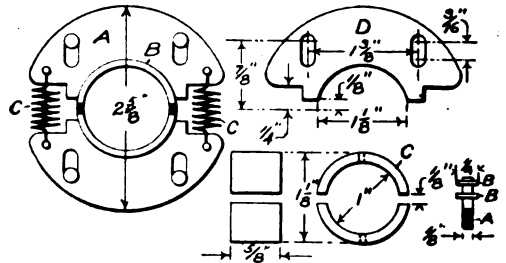

Fig. 8. Brass Contactors. Fig. 9. Contact Segments
The device which automatically cuts out the phase or starting coils when the rotor has attained speed is illustrated in Fig. 8. This consists of two brass contactors (A), which revolve with the rotor about two contact segments (B). The contactors are held in contact with the segments by means of the springs (C). The two contact segments (B) are connected in series with the phase winding. When the rotor has attained a certain speed, the centrifugal force of the contactors pulls them away from the segments, opening the starting coil circuit.